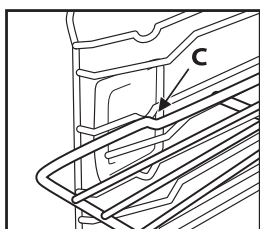

Fig. 3
3. Return the wire shelf to the horizontal position and push it in fully to "C" (Fig. 3).